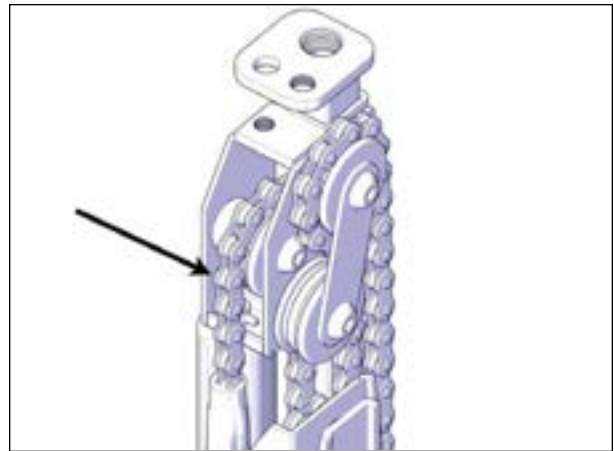

FIGURE 93: JACK CHAINS
9. Inspect the chains for signs of deterioration. If this is the case, please call your local Covana dealer immediately see Figure 93.